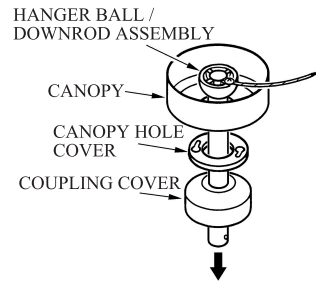

FIG.3
2. Insert the down rod through the center opening in the canopy, Canopy hole cover, coupling cover and route the motor leads through the hanger ball/downrod assembly. (see Fig.3)